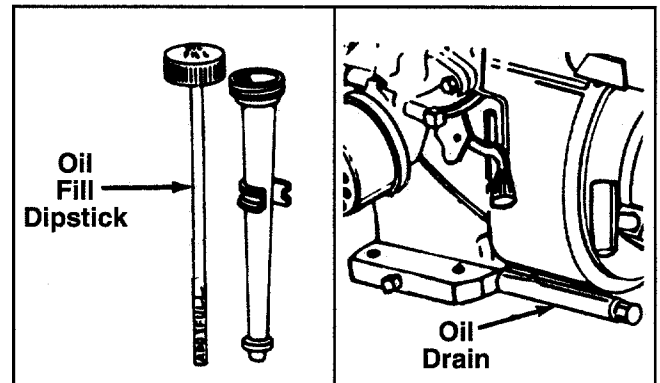

FIGURE 12.
- Fill engine with oil as follows. Remove oil fill dipstick. See figure 12. With chipper-shredder level, use a funnel to fill engine with oil to FULL mark on dipstick. Capacity is approximately 26 ounces. Be careful not to overfill. Tilt chipper-shredder toward the left (from behind the hopper), then re-level. Check oil level. Refill to FULL mark on dipstick if necessary. Replace dipstick and tighten.
Your four-cycle engine will normally consume some oil—therefore, check engine oil level regularly approximately every five hours of operation and before each usage. Stop engine and wait several minutes before checking oil level. With engine level, the oil must be to FULL mark on dipstick (refer to figure 12). Change engine oil after the first five hours of operation, and every twenty-five hours thereafter.